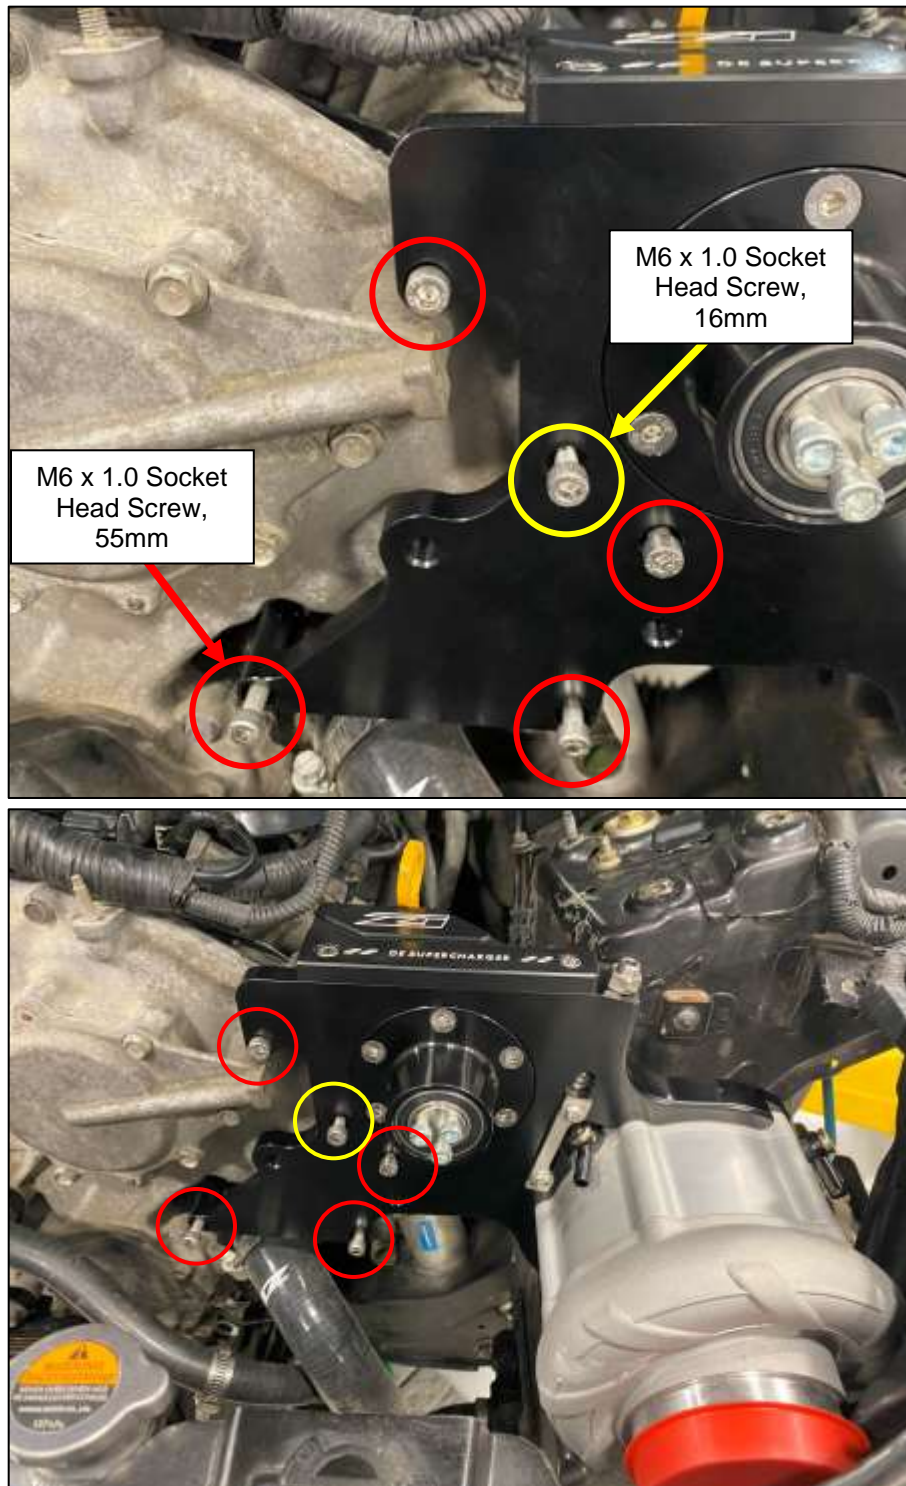

Figure 38
3. Locate the (4) four M6 x 1.0 Socket Head Screws, 55mm (#14), (1) one M6 x 1.0 Socket Head Screw, 16mm (#13) and the Main Supercharger Bracket Assembly (#57). Position the Main Supercharger Bracket over the Timing Cover. The Longer 55mm Bolts will be for the outside of the cover, circled in red. The shorter 16mm bolt will be used in the middle where the Wiring Harness bracket was removed in *Step 2*, circled in yellow. Torque the bolts to **9-10 ft-lbs**. *Figure 38*.